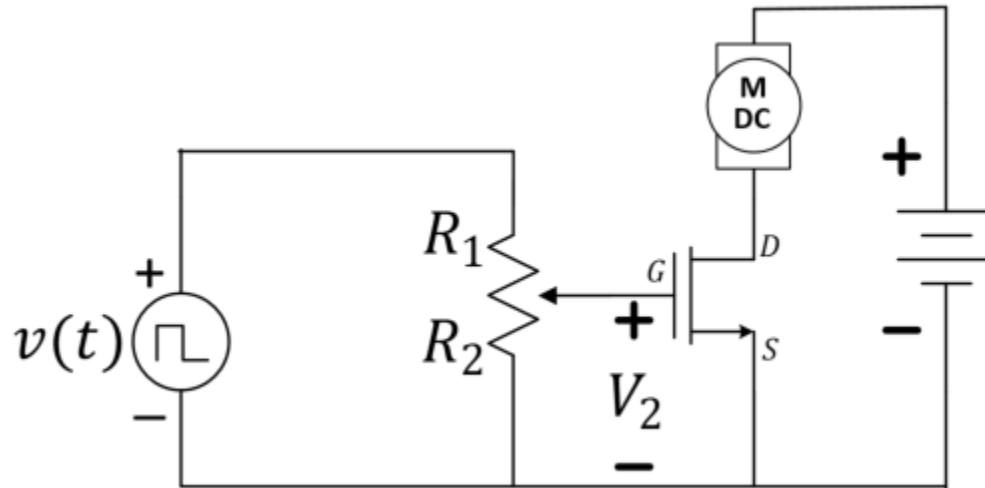

Figure 2: Slowing the motor speed in the motor-drive circuit.
Use the function generator to slow the motor as shown in Figure 2 below. Use a square wave with **the same frequency, amplitude, and offset as your oscillator** driving the blue LED. Observe the voltage V_2 on the oscilloscope's Channel 1 (press the **2** until Channel 2 turns off). Note that you will need to make sure the battery is *only* connected between the motor and the source (S) pin of the MOSFET. It should **not** be connected to the positive terminal of the function generator.